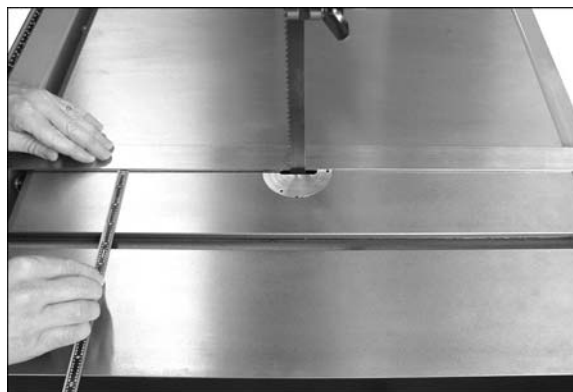

Figure 13
Refer to Figures 13 and 14.
3. Place a long straightedge flush against the blade making sure it contacts both front and back of the blade. (Do not deflect the blade by pushing into it.) See Figure 13.